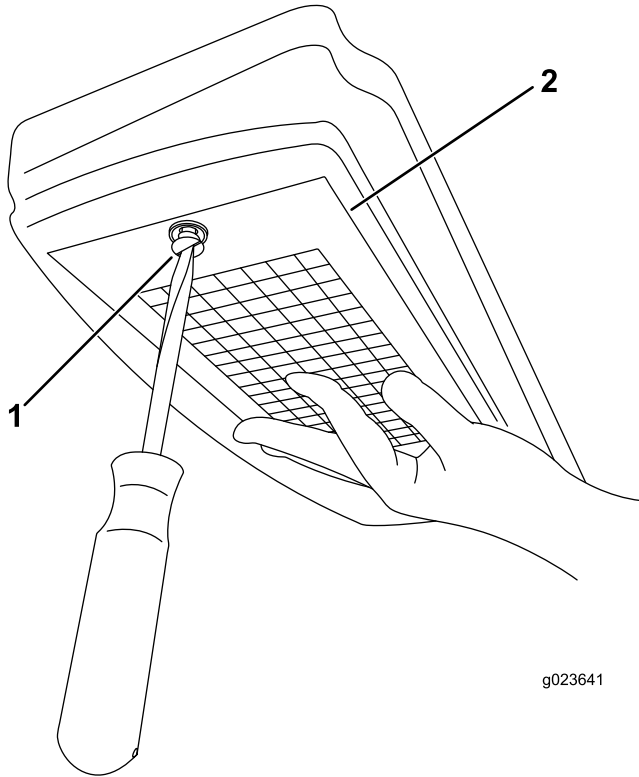

Figure 132
3. Remove the screw and the cover that house the air filter (Figure 132).